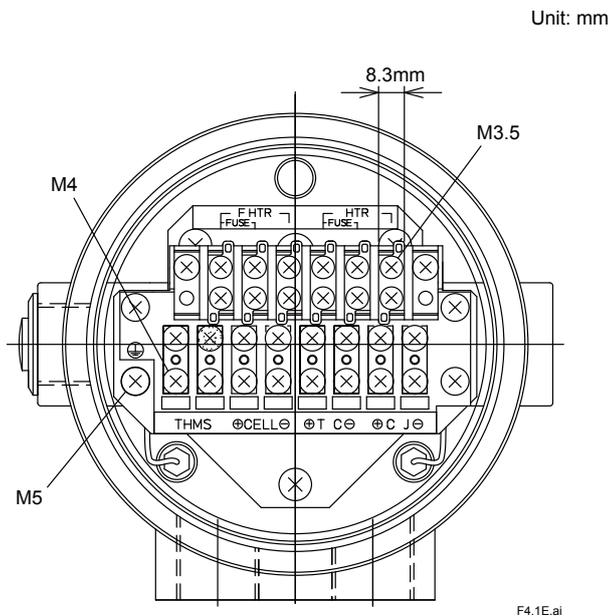

Figure 4.1 Detector Terminal Arrangement
- (1) Turn off all power supplies and make wiring by removing the detector and converter covers. Among the bolts for mounting the converter cover, the one on the bottom left is longer than the others. In ordinary maintenance, remove all other bolts except this bolt and carry out work rotating the cover around this bolt. This may prevent an accident from dropping the cover.
- (2) Terminal arrangements for the detector and the converter are as shown in Figures 4.1 and 4.2. Perform terminal connections based on the connection diagram of Figure 4.11.
- (3) Use wires by selecting sheath materials depending on the ambient temperature near the wiring path to the detector. Also determine wire size (diameter) for wiring between the detector and converter so that the conductor resistance including that of the return wire is 10Ω or less. When a multi-conductor cable is to be used, select that with a finished OD matching the electric wire lead-in utensils used. (This is described in section 4.2, "Wiring for Detector Signal," and later.)
- (4) For installation where the ambient temperature exceeds 80°C, be sure to use heat-resistant covering wires for wiring. In addition, also use a heat-resistant flexible conduit between the detector and relaying connection box or between conduits, and in particular, consider rainproofness in the case of outdoor installation.
- (5) Be sure to connect wire ends to predetermined terminals using crimp-on terminal lugs.